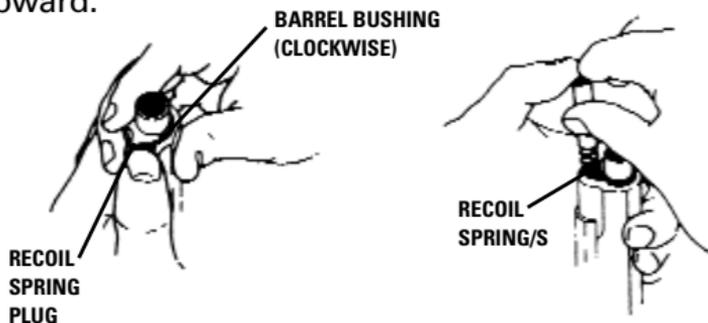

FIGURE 6 - RELEASING SPRING TENSION
3. Press down on recoil spring plug (located just below muzzle) and at the same time rotate barrel bushing clockwise about 1/4 turn, using barrel bushing wrench if necessary; this will free plug and recoil spring. Keep pressure on plug to prevent it from being ejected by the spring, then allow plug and spring to gradually extend out of slide. (See Figure 6) Rotate plug counterclockwise and remove from spring.